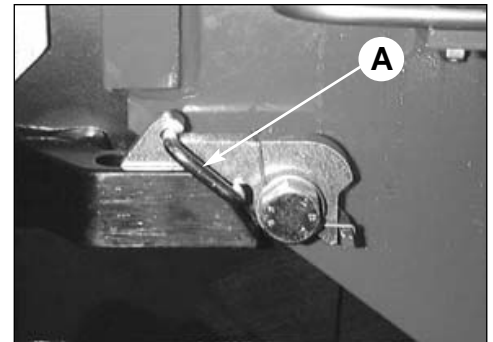
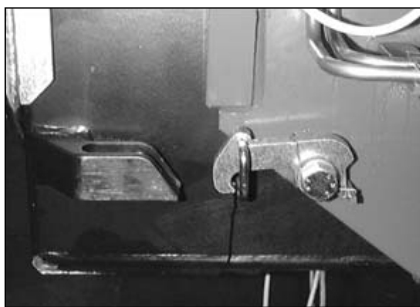

fig. 20
fig. 20c
- Disengage the locking devices of the outrigger supports by putting the levers **A** from the position of the fig. 20 to the one of the fig. 20a.
Keep hands clear of automatic stop device (lever **A** from the position of the fig. 20c to the one of the fig. 20).
(!) Always check that the outriggers supports, once in their rest position, are locked in their seat by the safety devices, so as to assure the impossibility of accidental movement. (Fig. 20)